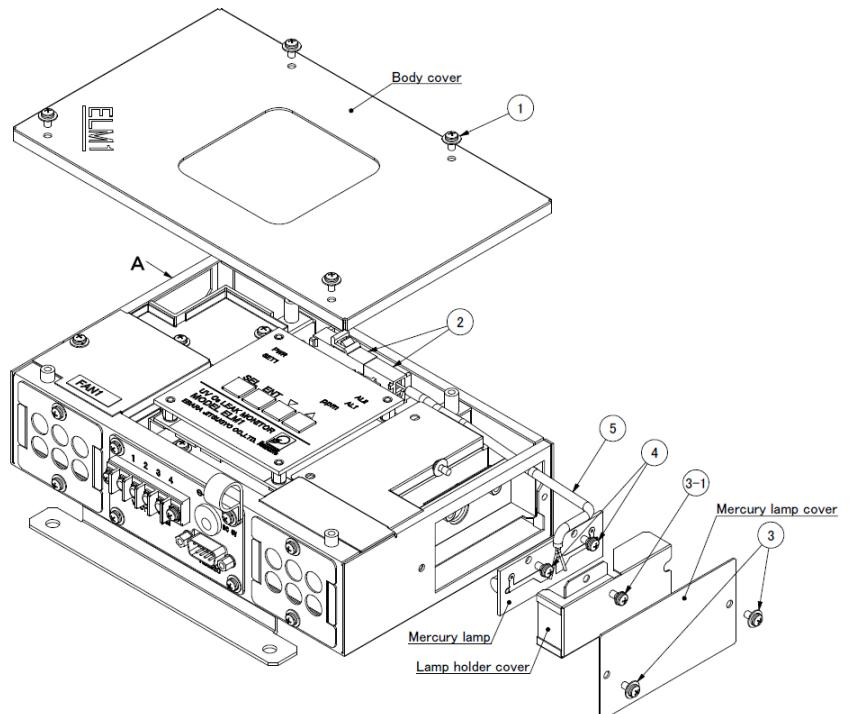

Figure- 7 : Replacement of the mercury lamp
- 1) Make sure to turn off the power before starting replacement work. See Figure-7 for replacing the mercury lamp.
(View from A of figure -7)